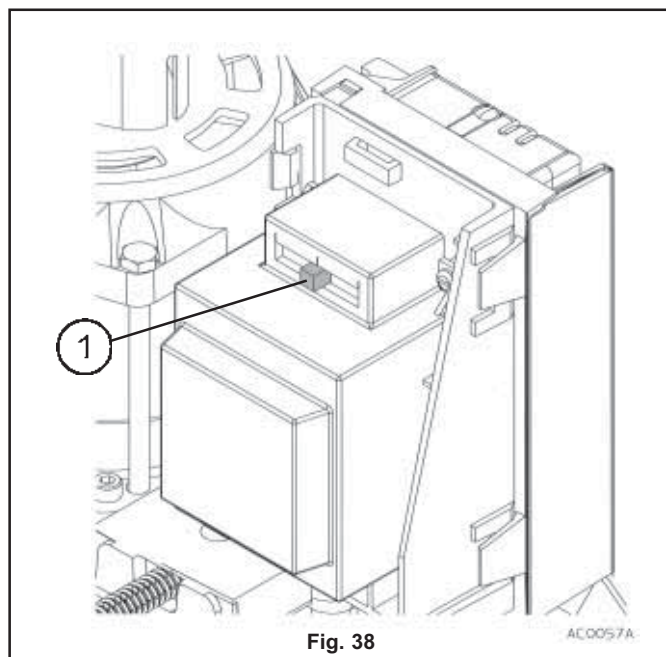

Fig. 38
- The adjustment of the voltage of the motor power supply is performed directly on the autotransformer by means of the slider switch with which it is equipped (1 fig. 38).